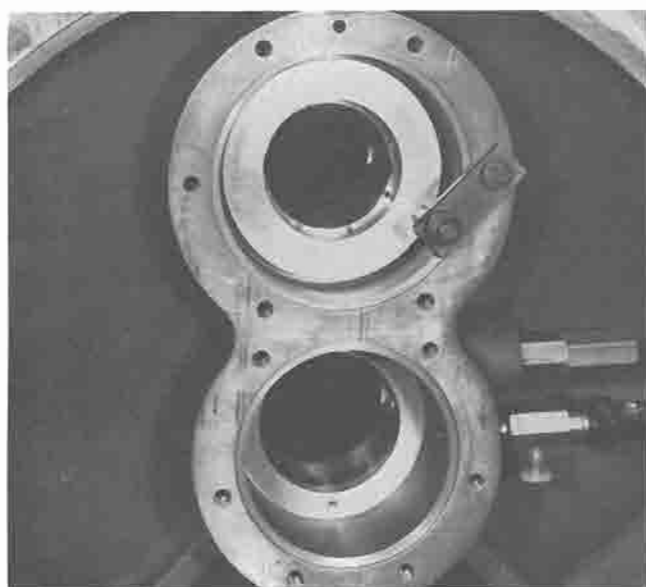

FIG. 30 – HOLDING HIGH-SPEED THRUST BEARING IN POSITION
1. Before installing the gears it will be necessary to hold the high-speed thrust bearing in position to keep it from being pushed out of the compressor when the high-speed shaft is inserted. (See Fig. 30 for a suggested method)